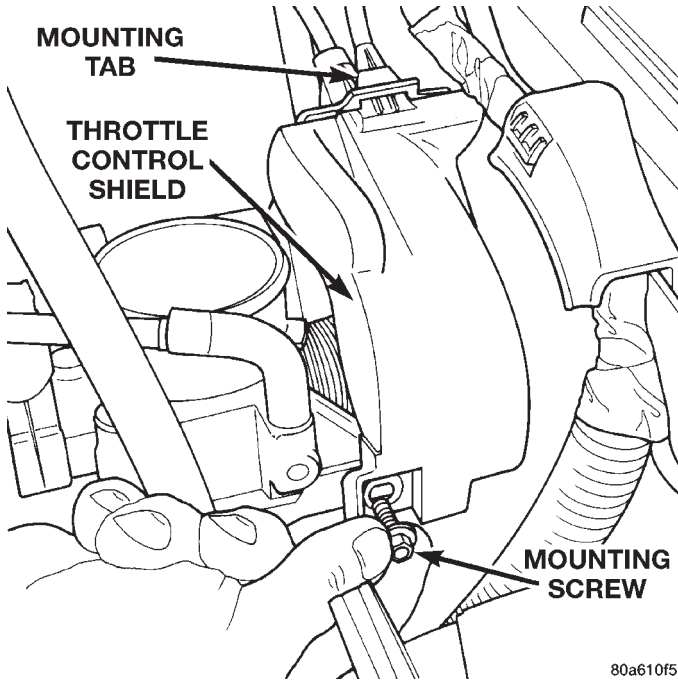

Fig. 8 Throttle Control Shield
- (1) Remove throttle control shield, if equipped (Fig. 8).
- (2) Remove throttle cable clasp from the throttle body cam.
- (3) Remove speed control cable from throttle cam by sliding clasp out hole used for throttle cable.
- (4) Compress the retaining tabs on the cable and slide cable out of bracket.
- (5) Remove 2 nuts retaining bracket to servo.
- (6) Remove retaining clip holding cable to servo.